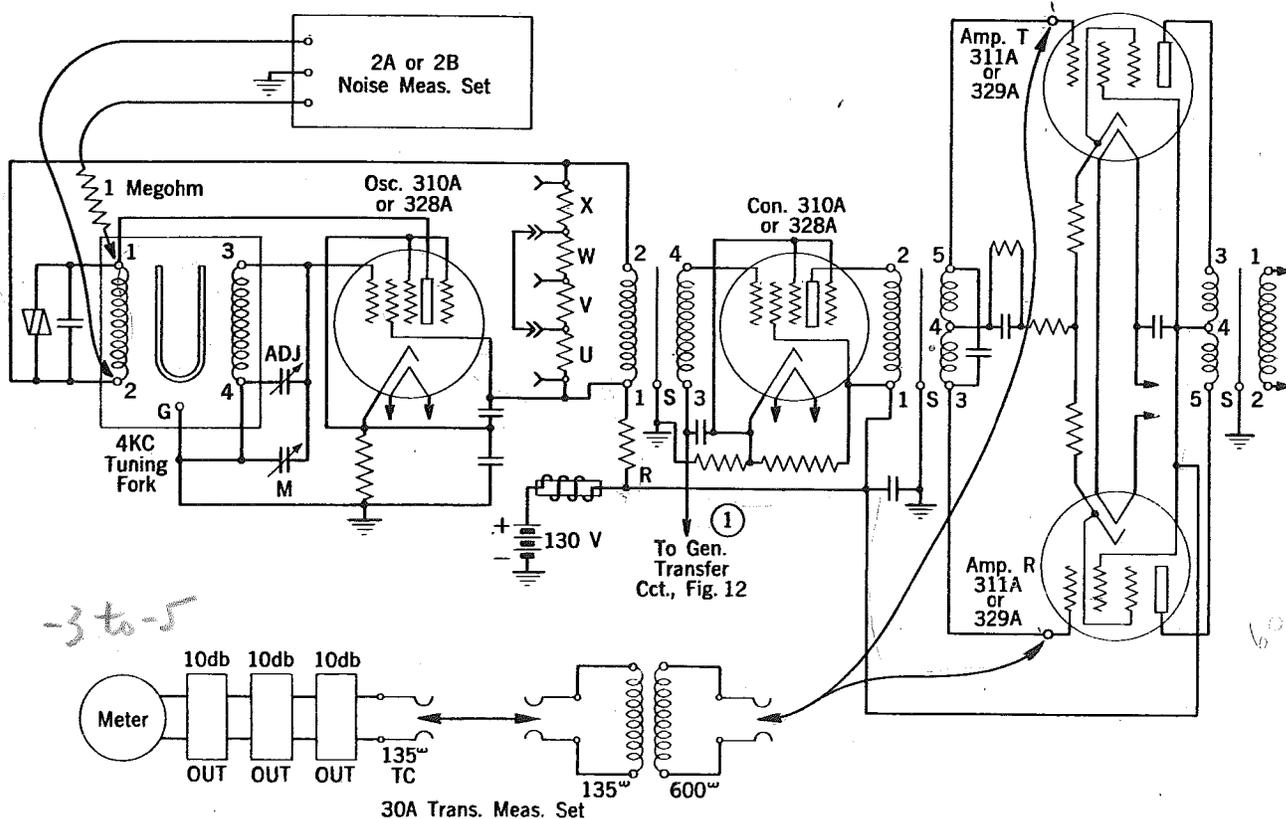

Fig. 1 - 4-Kc Carrier Generator Output
3.09 Procedure - Bridged Measurement at AMP T and AMP R Tubes - See Fig. 1:
3.10 Procedure - Loss Measurements Through 4-Kc Tuning Fork - See Fig. 1: